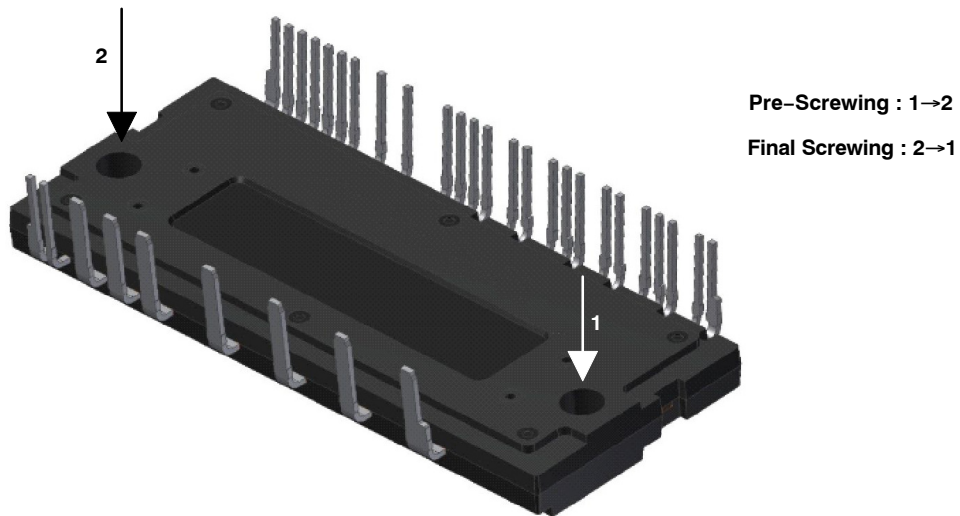

Figure 9. Mounting Screws Torque Order
13. Avoid one-sided tightening stress. Figure 9 shows the recommended torque order for the mounting screws. Uneven mounting can cause the DBC substrate of package to be damaged. The pre-screwing torque is set to 20 ~ 30% of maximum torque rating.